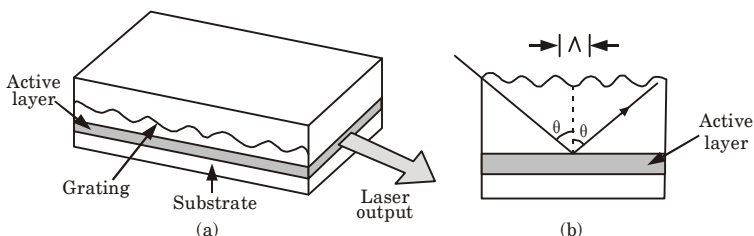

Fig. 3.15.1. Distributed feedback, (DFB) laser diode; (a) Structure of DFB laser diode; (b) Working of distributed feedback.
- A typical DFB laser configuration is shown in Fig. 3.15.1(a). A DFB laser diode has the Bragg grating incorporated into its heterostructure in the vicinity of an active region.
- This is done by reflecting a portion of the light at each slope of the grating as shown for one beam in Fig. 3.15.1.(b). All the portions reflected at each slope of this corrugated structure then combine so that most of the light will be reflected back provided that Bragg's condition is satisfied.